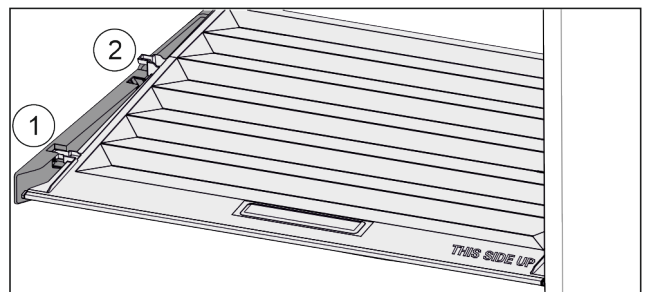

Fig. 137
- ▶ Pull the lid up at the front to the opening in the retaining parts Fig. 137 (1).
- ▶ Lift from the back and pull it up and out Fig. 137 (2).